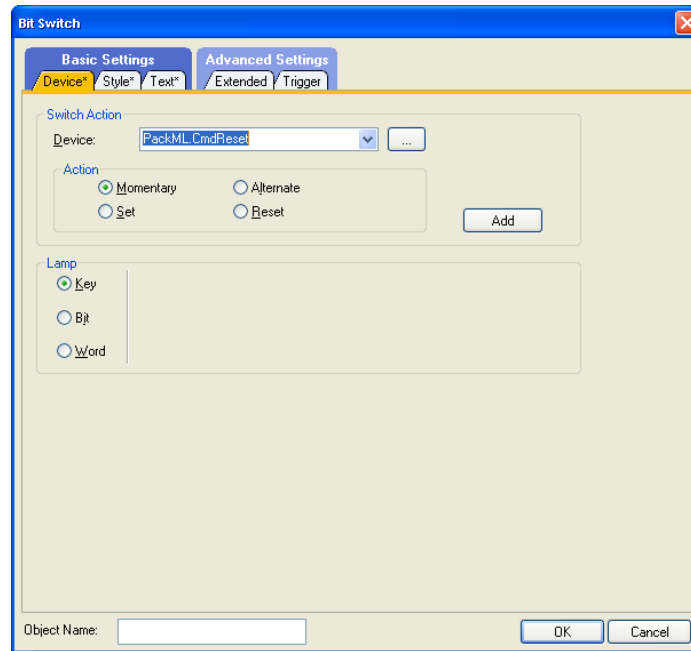

Figure 39 – Valid System Label in GT Designer 3
- g. Execute Batch Reflect again on the Navigator. If there is no error, re-launch GT Designer 3, and the System Label Update / Check operation will execute automatically. The system label will now become valid as shown in Figure 39 without the question marks.